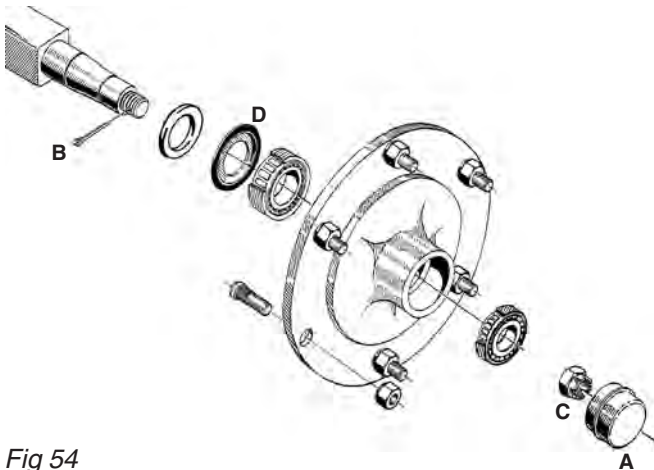

Fig 54
- 4 Remove the hub cap (A Fig 54), cotter pin (B Fig 54) and castle nut (C Fig 54).
- 7 Assemble the hub and bearings using a new sealing ring (D Fig 54).